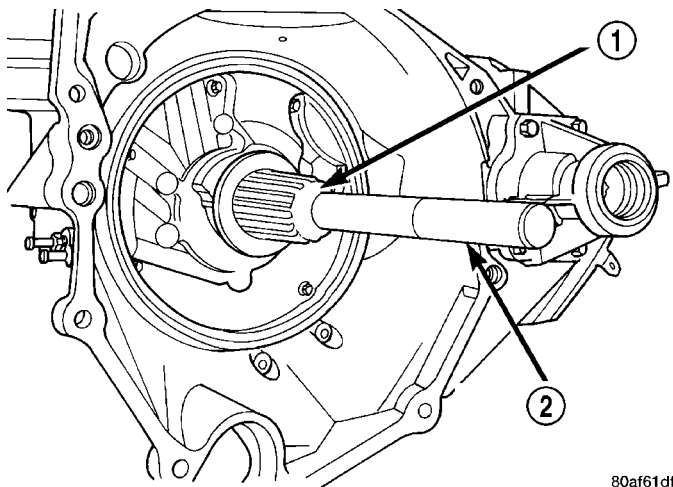

Fig. 290 Install Oil Pump Seal
(1) Using Tool C-4193, install oil pump seal (Fig. 290).